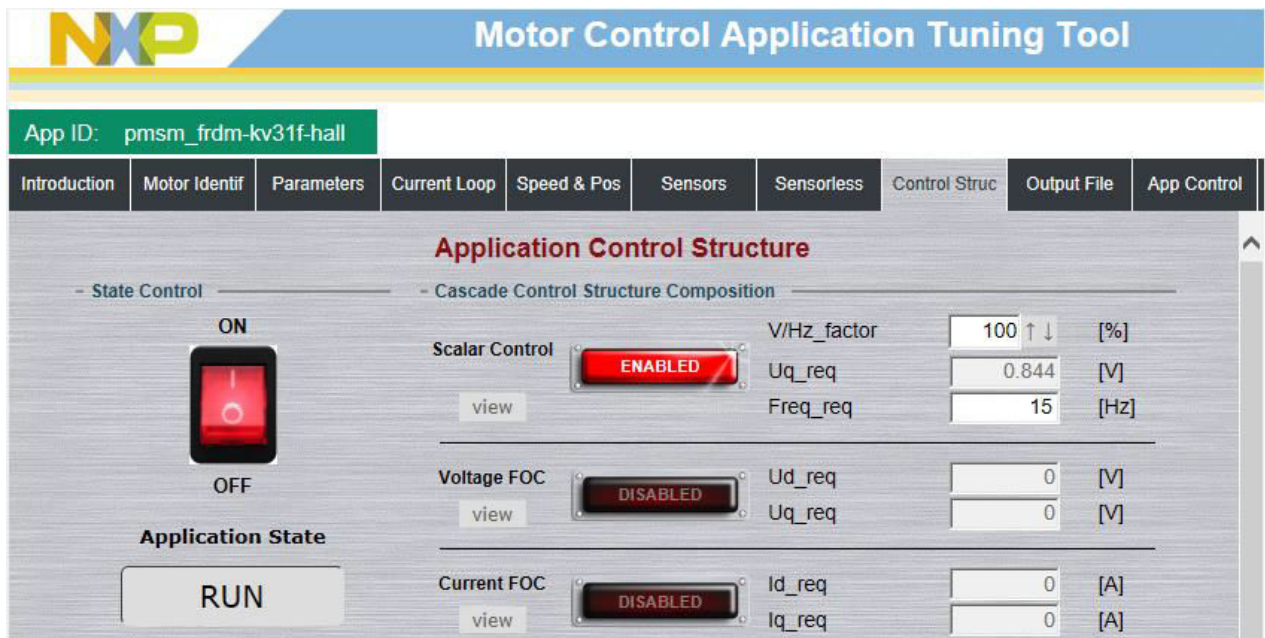

Figure 47. MCAT scalar control
- Set the required frequency value in the “Freq_req” field; for example, 15 Hz in the “Scalar Control” section. The motor starts running (Figure 47).